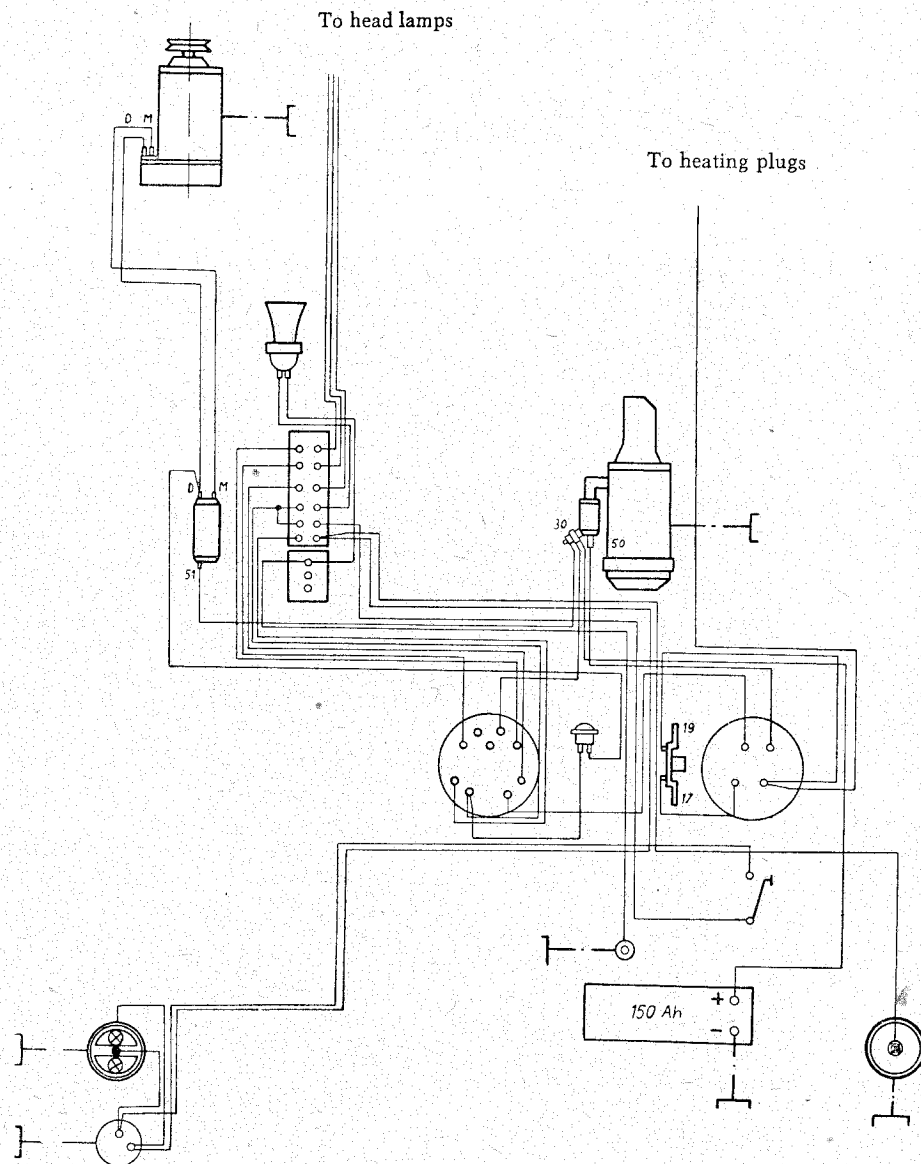

Fig. 76.
- c) From Serial No. 125-40725 up to Serial No. 125-45099 of the Zetor 25 A tractors and from Serial No. 225-24330 up to Serial No. 225-30632 of the Zetor 25 K tractor: dynamo model 02-9055.04, Part No. 1301.05 and voltage regulator model 02-9403.28, Part No. 4320.29 - for wiring diagram see Fig. 76.